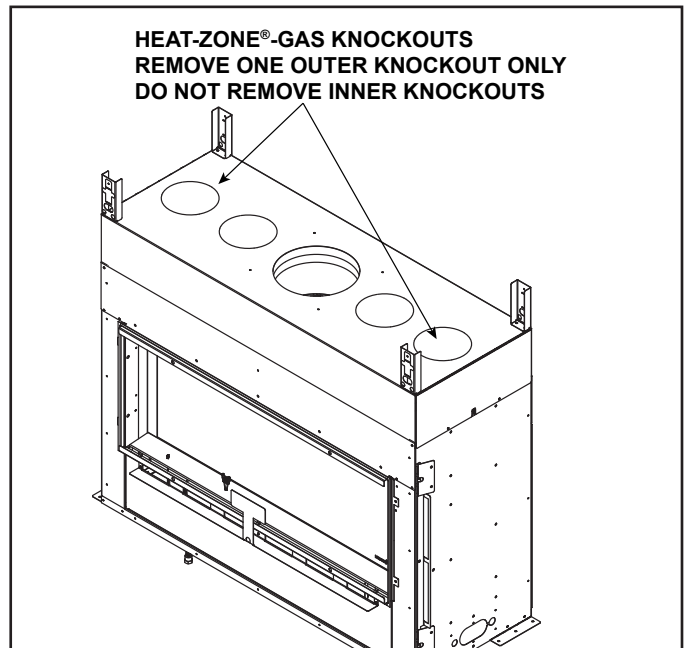

Figure 1 Top Knockout Locations
1. Locate the Heat-Zone-Gas knockouts on the top of the appliance as shown in Figure 1. Remove one of the outer knockouts from the appliance with a tin snips or screwdriver. Inner knockouts cannot be used for Heat-Zone-Gas installation.